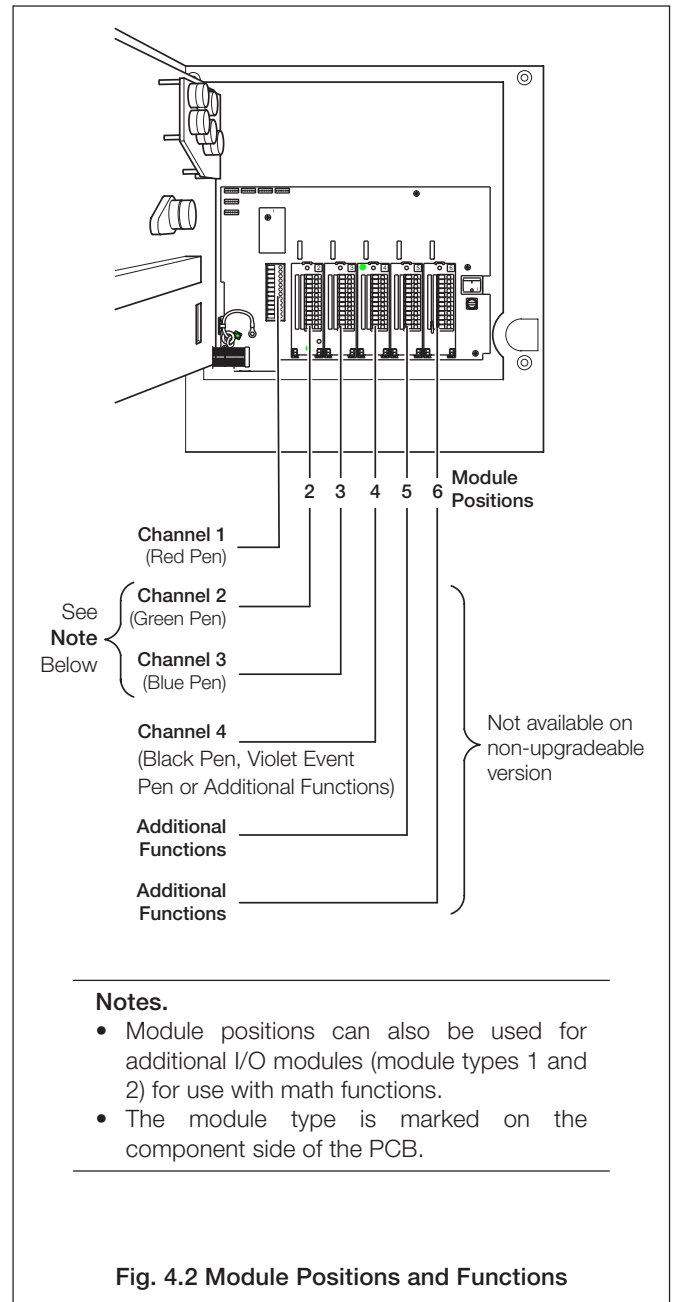

Fig. 4.2 Module Positions and Functions
4.1 Identifying the Input/Output Modules – Fig. 4.2
To gain access to the modules, open the door and chassis – see Fig. 2.2. There are six module positions as shown in Fig. 4.2.
Other Channel connections are made to standard I/O modules, fitted in positions 2, 3 or 4 – see Fig. 4.2.